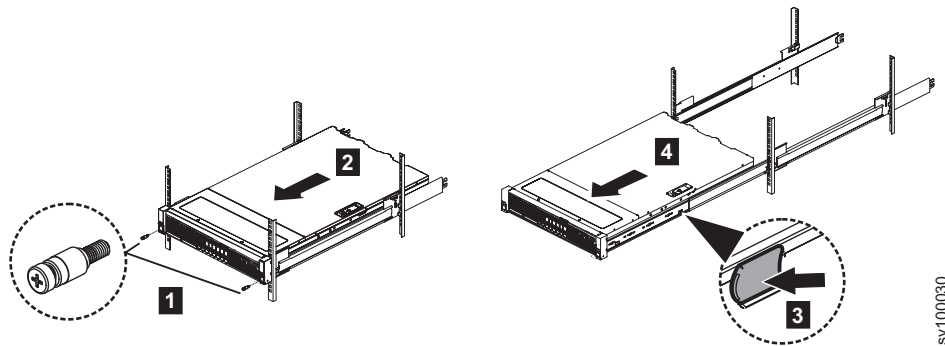

Figure 43. Remove the 2145-SV1 node chassis from the rack
4. To remove the chassis, complete the steps that are shown in Figure 43